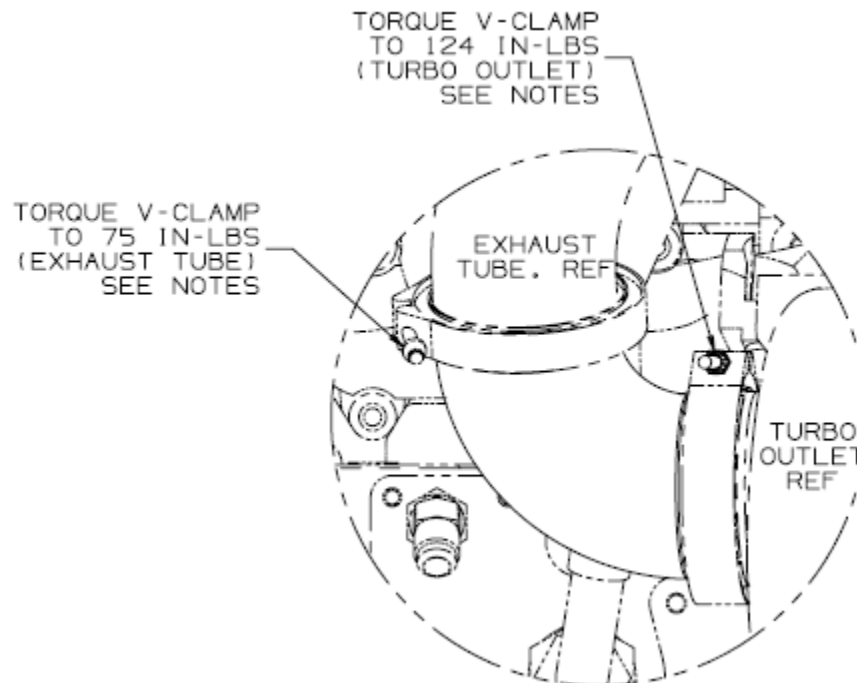

Figure 1: Align Turbo Exhaust Elbow and Torque Clamps
6. Ensure the turbo exhaust elbow is aligned with both the turbo outlet and the exhaust tube. Torque the existing clamps as shown in Figure 1.